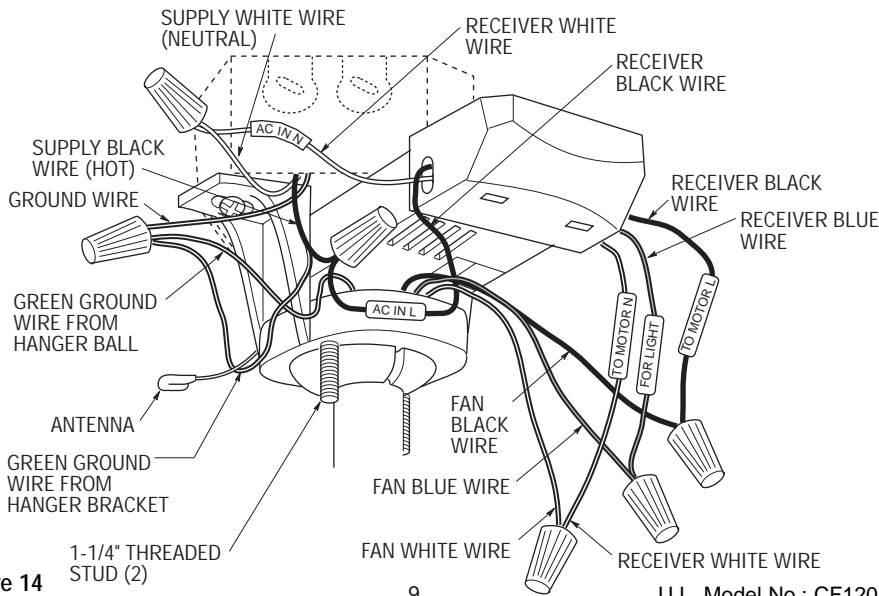

Figure 14
- 1. Position the supply wires to the left side of the outlet box (Figure 14); position the fan wires to the right side. Partially insert the remote control receiver (flat side up) until one end rests on the hanger ball as shown in Figure 14.
- 2. Refer to Figure 14 and 15 and connect the receiver wires to the supply wires and the fan motor wires as follows:
- 4. Screw the two 1-1/4" threaded studs (supplied) into the tapped holes in the hanger bracket (Figure 14).